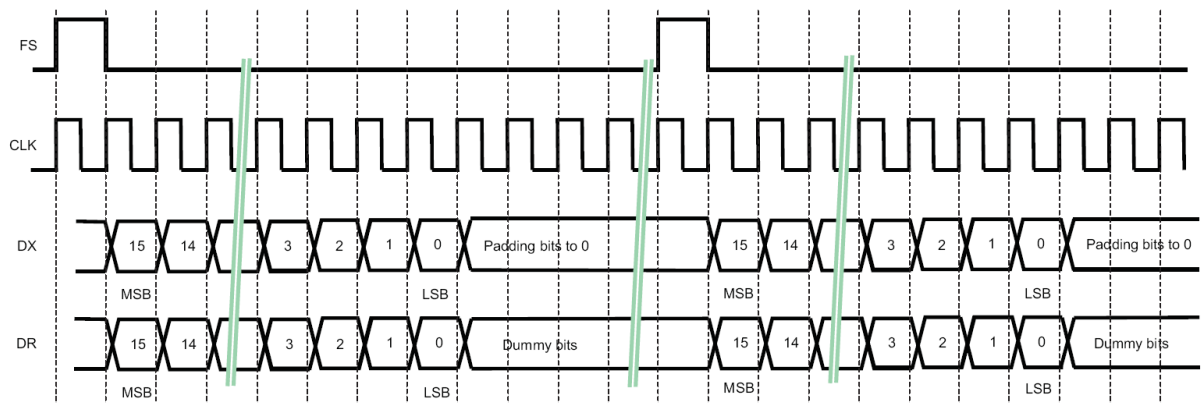
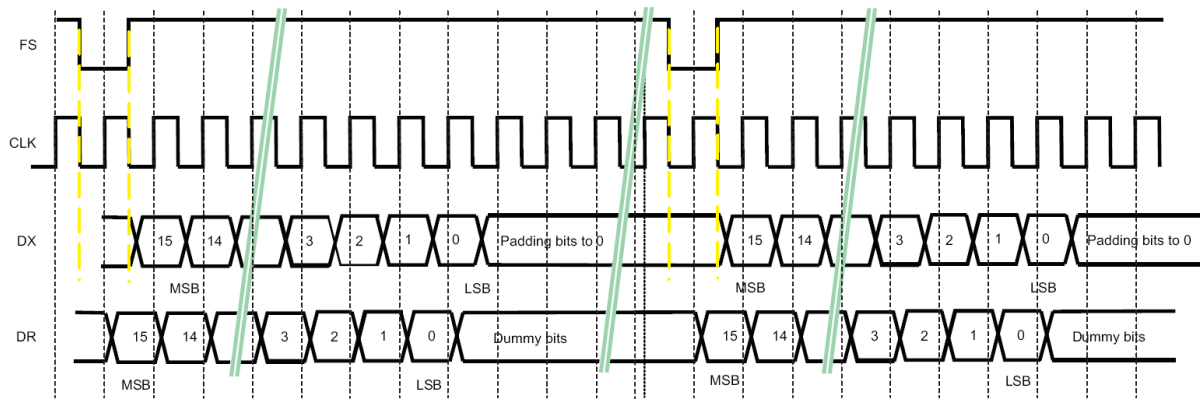

Figure 7. PCM Protocol – Mode 1 Data Format
Figure 8. PCM Protocol – Mode 2 Data Format
*Figure 7* and *Figure 8* shows an example of PCM protocol, mode 1 and mode 2, respectively, for a frame composed one word (width: 32 bits) with 16 bits data.